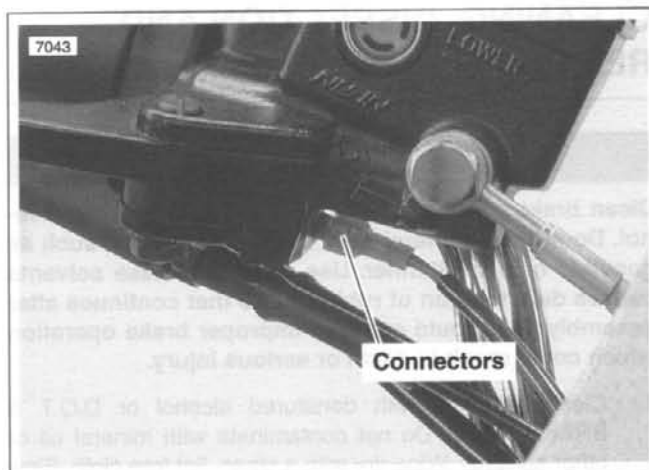

Figure 2-31. Brake Lamp Switch Connectors
2. Connect brake line (5) to master cylinder using two **new** gaskets (4) and banjo bolt (6) (metric). Tighten to 16-20 ft-lbs (21.7-27.1 Nm).
3. See Figure 2-31. Verify brake lamp switch wires are tight.